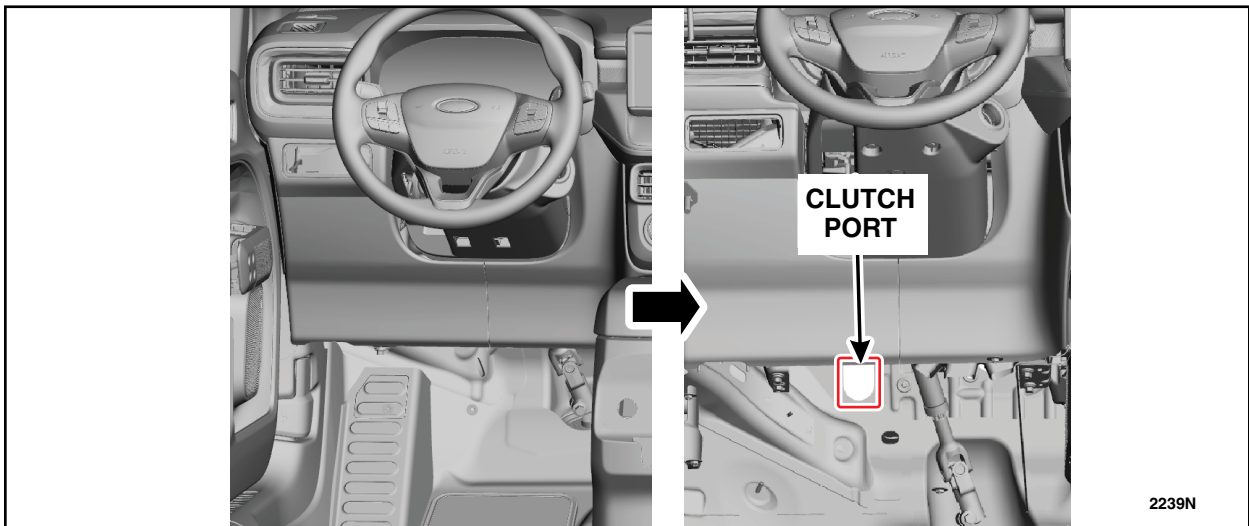

FIGURE 13
17. Remove Left Hand (LH) Lower B Pillar. Follow WSM procedures in Section 501-05.
19. Access the **clutch port** from the drivers side, under the Instrument Panel. See Figure 13.